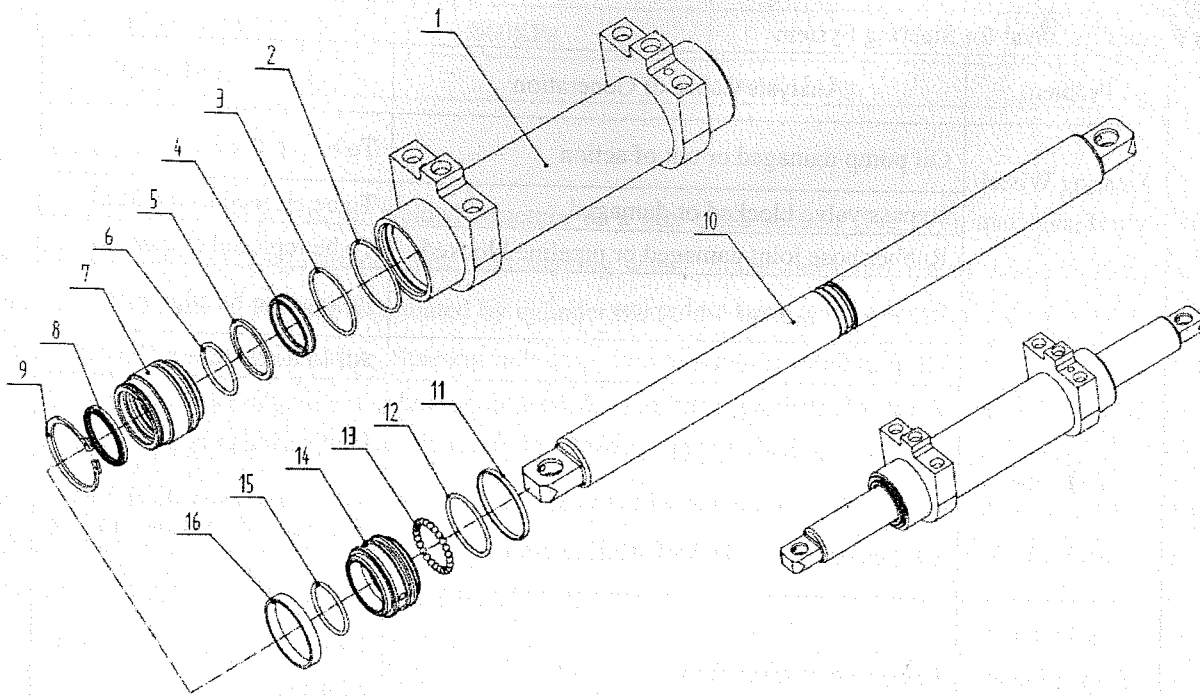

Fig 5-3 Steering Cylinder
(2) Steering Cylinder (Fig 5-3)